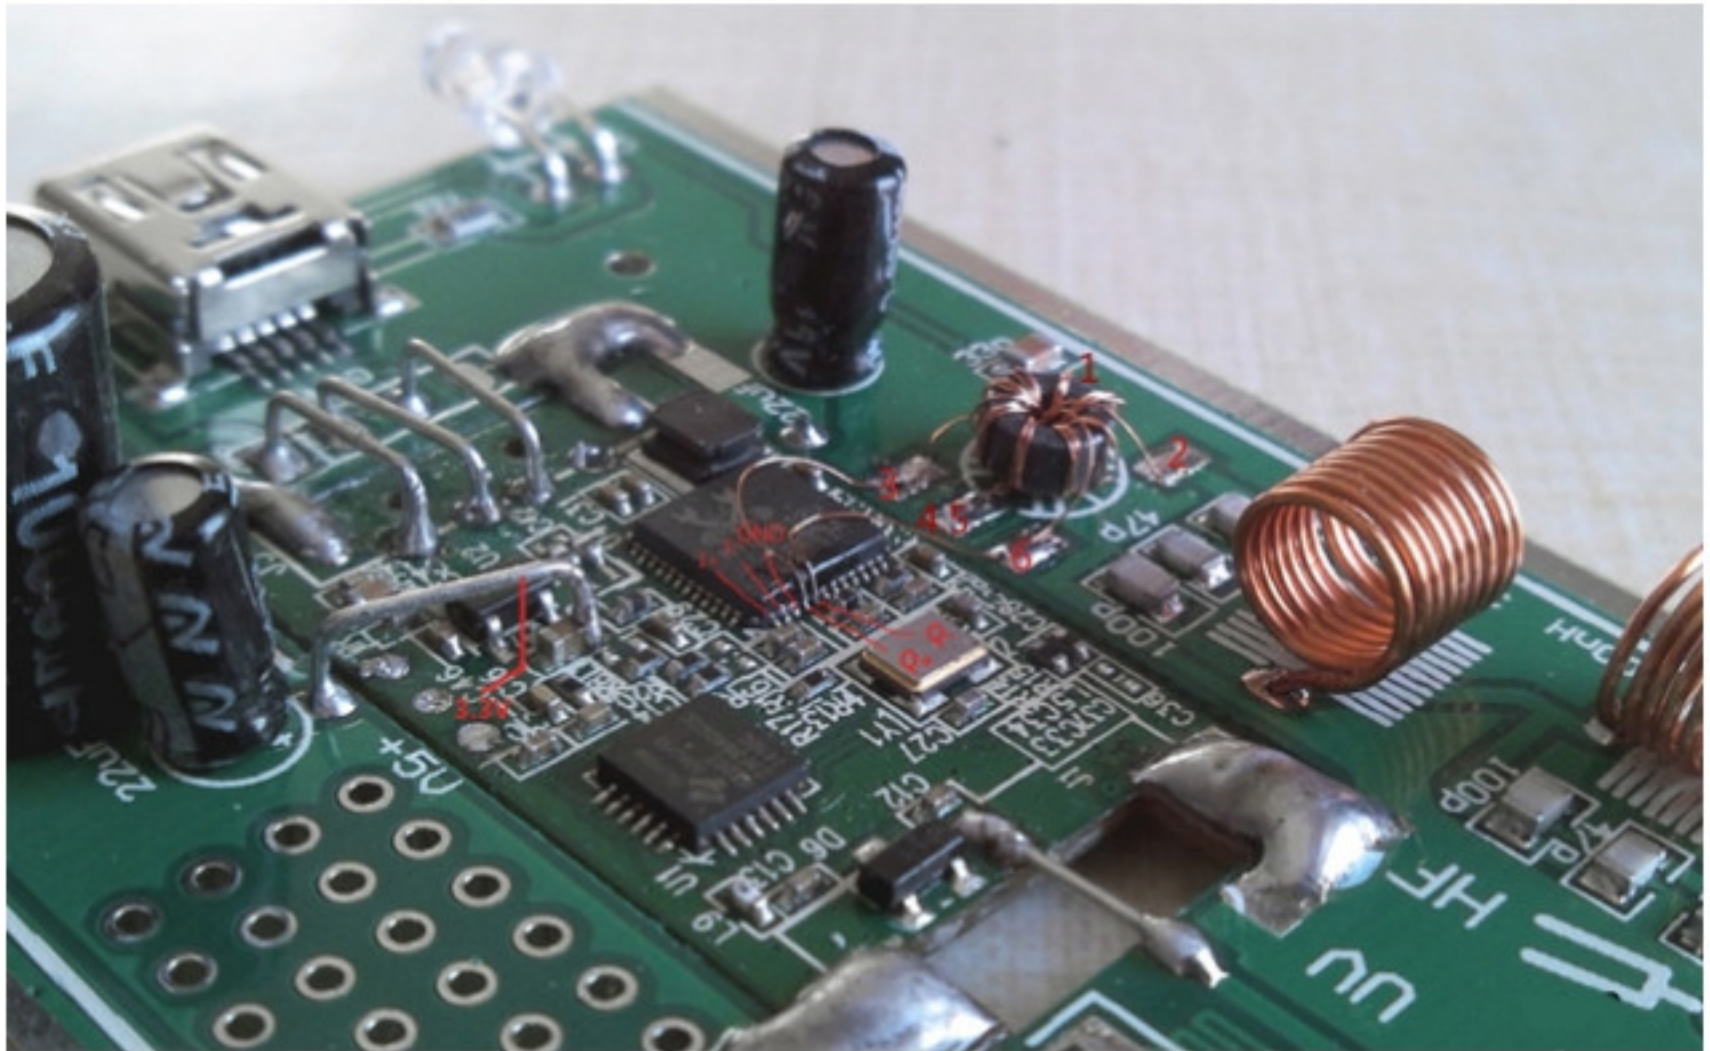

Figure 11
Step 6: Set the TV Dongle and the small board circuit on the middle of a large circuit board. (Reference Figure 11,12)
Step 7: Solder the leads of high-frequency transformer on the circuit board.(Reference Figure 11,12)
Step 8 : Solder the lead wires as shown in Figs. 11 and 12.